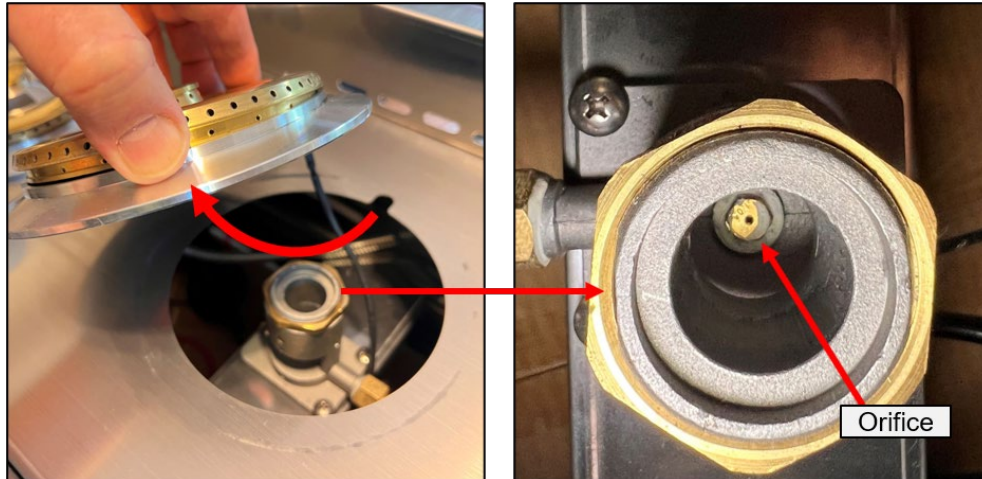

Figure 22 Burner Orifice Leak Test
6. Looking below the burners (Figure 22), spray each orifice with soapy water to check for bubbles